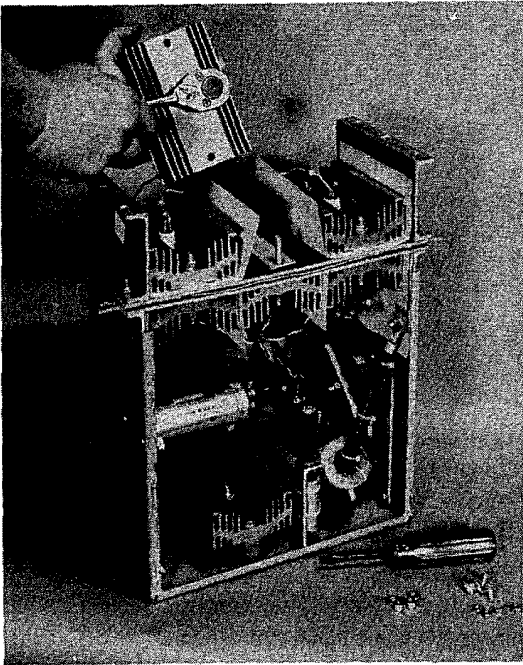

FIGURE 19
4. Remove four (4) machine screws and nuts that secure the front, red plastic insulation cover to the converter module.
6. Remove the two (2) nuts that secure the defective SCR heatsink to the DC bus (P1 or N1).
8. Remove the stud mounted SCR from its heatsink. It is secured with a nut and lock washer. See Figure 19.